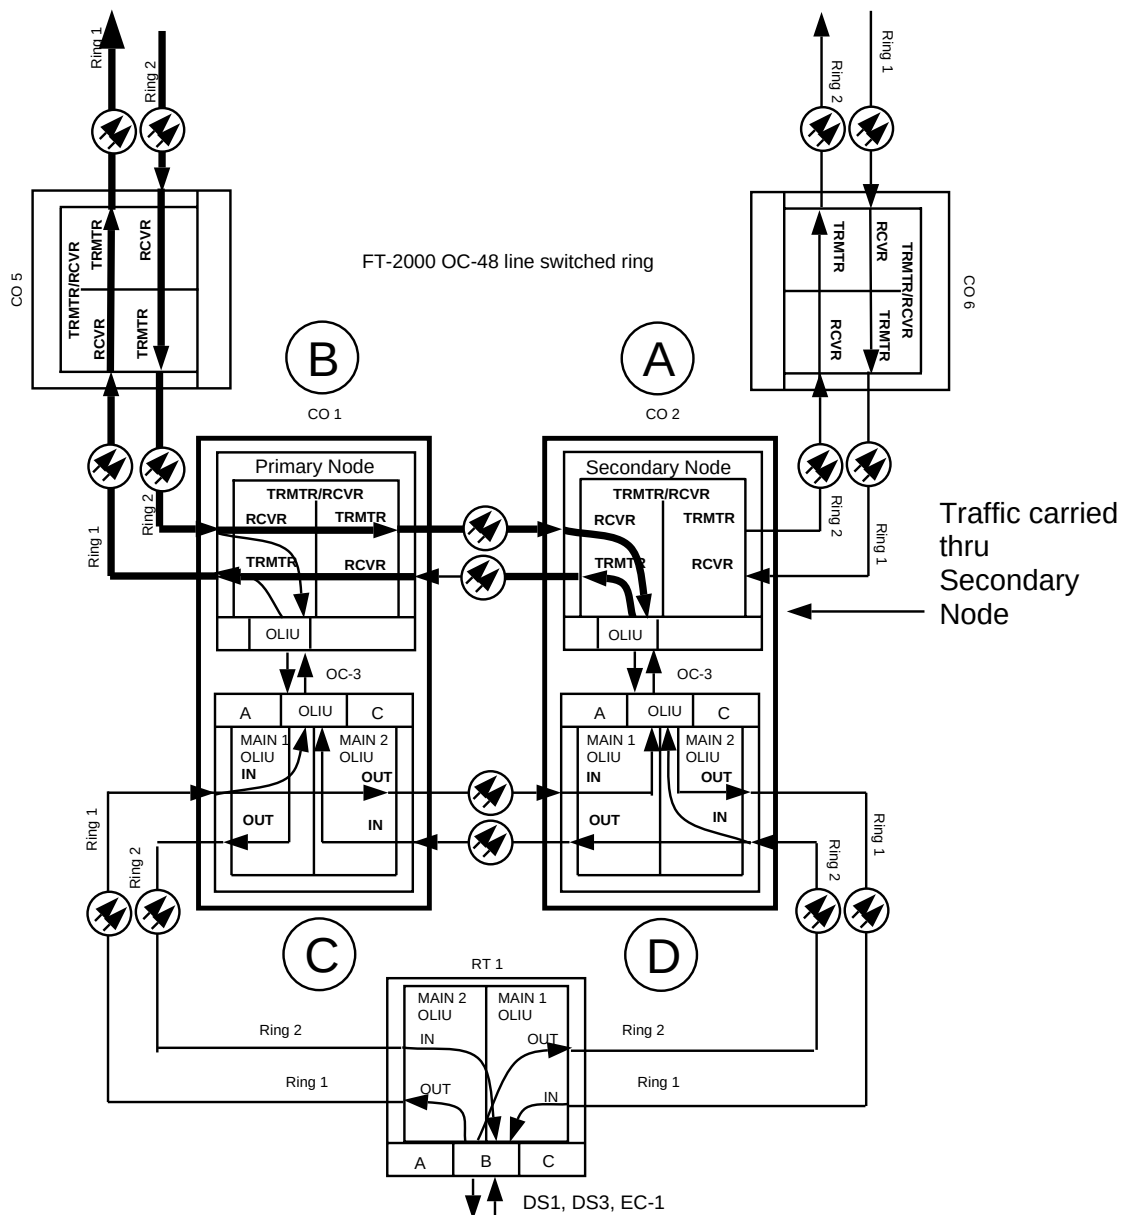

Figure 2. OC-3/OC-48 DRI Interworking
17. At the FT-2000 **primary** node, use the "**FAULT-Switch-Path-STS3**" command to switch the designated tributary from primary node to secondary node. (Switch traffic to secondary node.) See Figure 2.
19. At the OC-3 node associated with the FT-2000 **primary** dual ring interworking node, remove both **BBG6 STS1E** circuit packs from **FUNCTION UNITS** slots being upgraded to **OLIUs** (for example, node C in Figure 2).
21. At the FT-2000 **primary** dual ring interworking node (for example, node B in Figure 2), use FT-2000 procedures in 365-575-102, *FT-2000 OC-48 Lightwave System, User/Service Manual*, **Delete DS3 and/or EC-1 Low Speed Port(s), NTP-003**.
28. Perform end-to-end OC-3/IS-3 line test at DRI nodes associated with the FT-2000 primary node (for example, nodes B and C in Figure 2). **DLP-515**